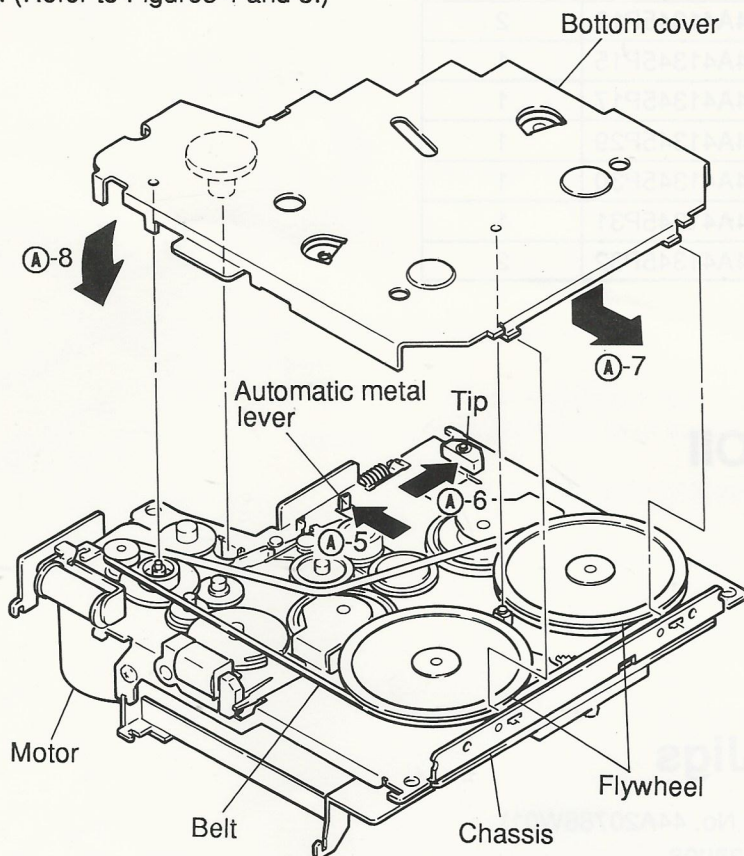

Figure 3
- (9) Turn the mechanism around as shown in Figure 3.
- (10) Pull the automatic metal lever in the direction ④-5 and the RF solenoid chip in the direction ④-6 as shown in Figure 3.
- (11) Insert the hooks of the bottom cover into the chassis in the direction ④-7, and then join the part ④-8 of the bottom cover to the chassis slowly, making sure that the 3 points indicated with the straight lines in the Figure 3 are fitted properly.
If there are troubles in mounting the bottom cover, do not apply force but remove the bottom cover once again and check the positions of the individual parts. (Refer to Figure 3.)